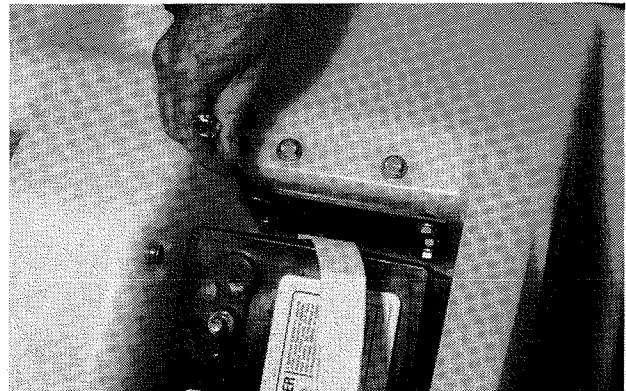

Figure 12
1. Loosen the four bolts on the motor lock plate as shown in Figure 12.